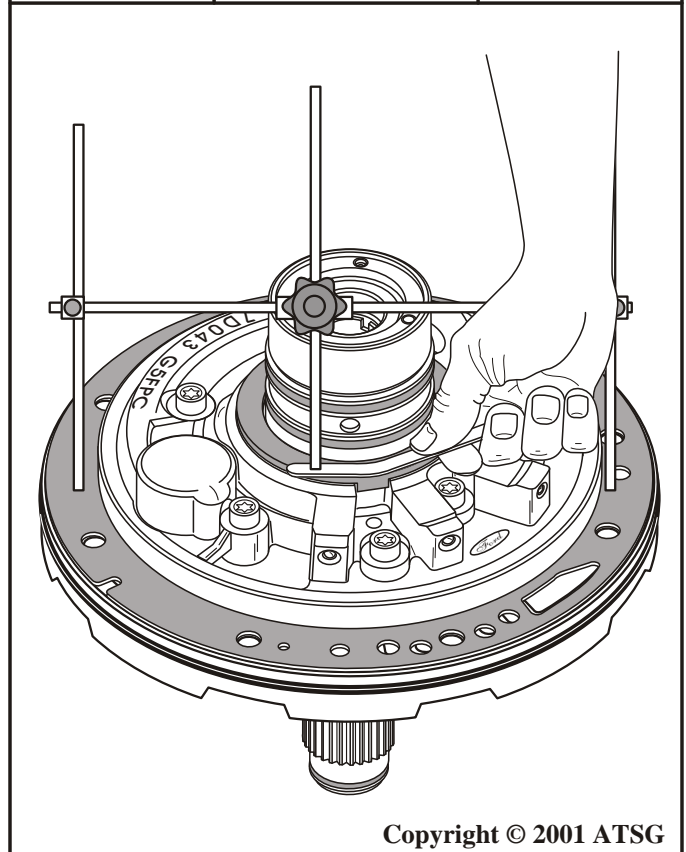

Figure 167
53. Install pump gasket onto the pre-assembled oil pump, as shown in Figure 167.
54. Place the "H" gauge with the previously set center rod onto the oil pump in the opposite direction, with the center rod placed over the selective washer, as shown in Figure 167.
55. Measure with a feeler gage between the center rod and selective thrust washer, as shown in Figure 167.